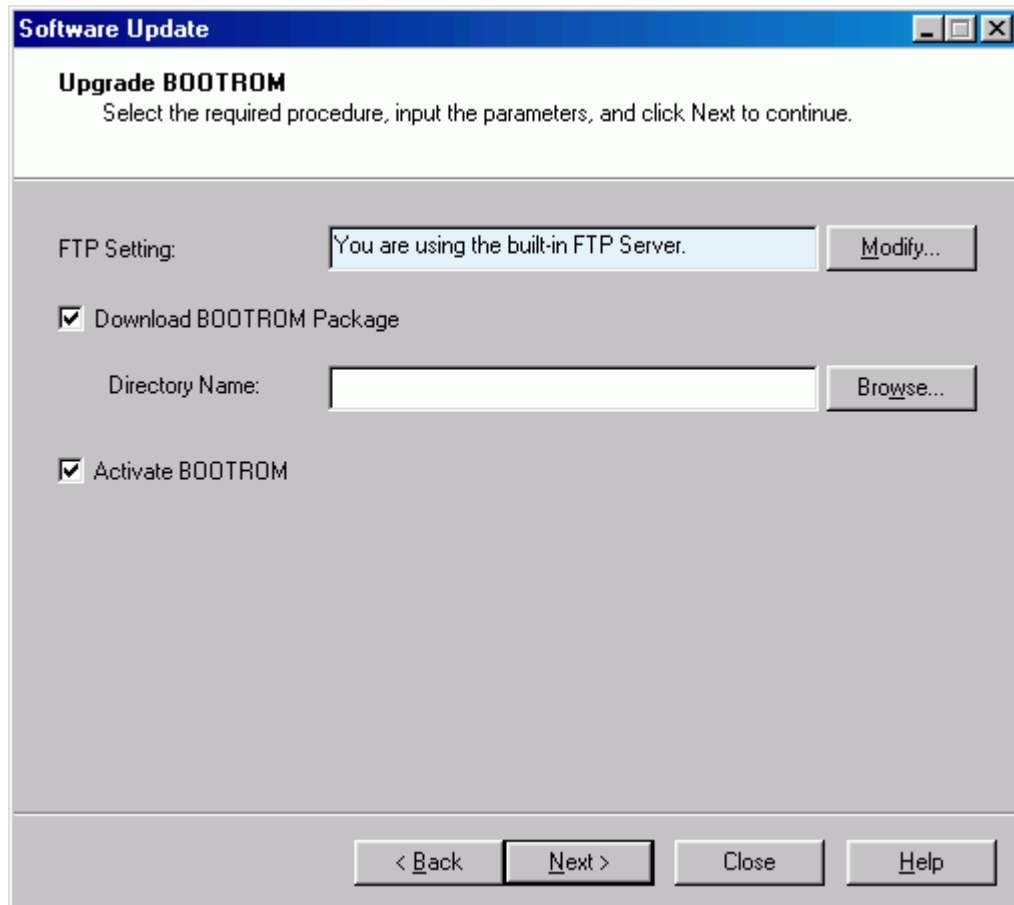

Figure 14-6 Upgrade BOOTROM dialog box
- 3) Click **Next**. The **Upgrade BOOTROM** dialog box opens up as shown in Figure 14-6.
The **Upgrade BOOTROM** dialog box opens up as shown in Figure 14-6.